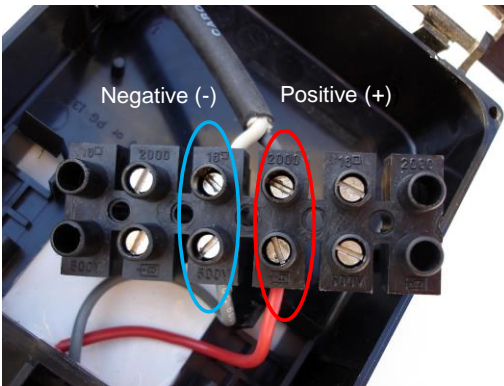
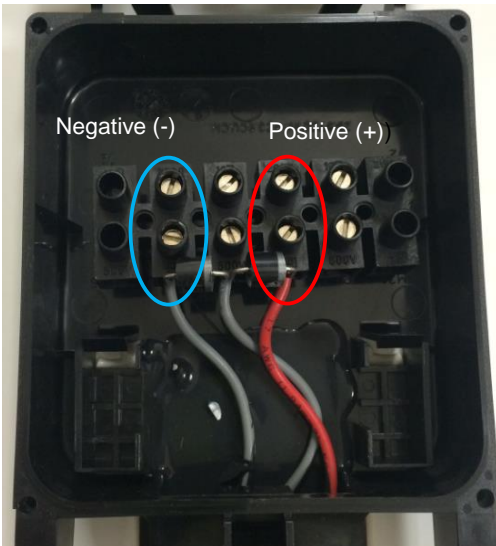

Figure 32: Power Cable Connection to Solar Cell Terminals (Supplier part number 485J and 490J. See solar panel instructions for details.)
Figure 33: Power Cable Connection to Solar Cell Terminals. (Supplier part number 90J. See solar panel instructions for details.)
3. Next, attach the power cable to the Solar Cell screw terminals as shown in Figure 32 and Figure 33.